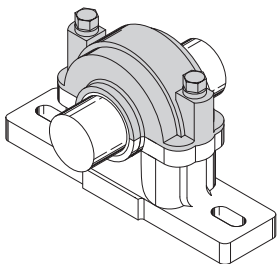
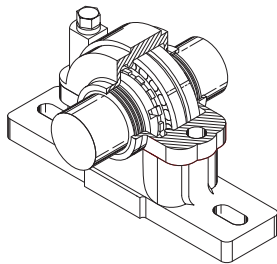

Fig. 20-14 Mounting upper half of pillow block.
Fig. 20-15 Cutaway illustration.
10. The bearing seat in the upper half of the pillow block housing (cap) should be deburred, thoroughly cleaned, and placed over the bearing (Fig. 20-14). The two dowel pins will align the upper half of the cap. Caps and bases are not interchangeable. Each cap and base must be assembled with its mating half. Then apply lockwashers and cap bolts to housings to complete the assembly (Fig. 20-15).